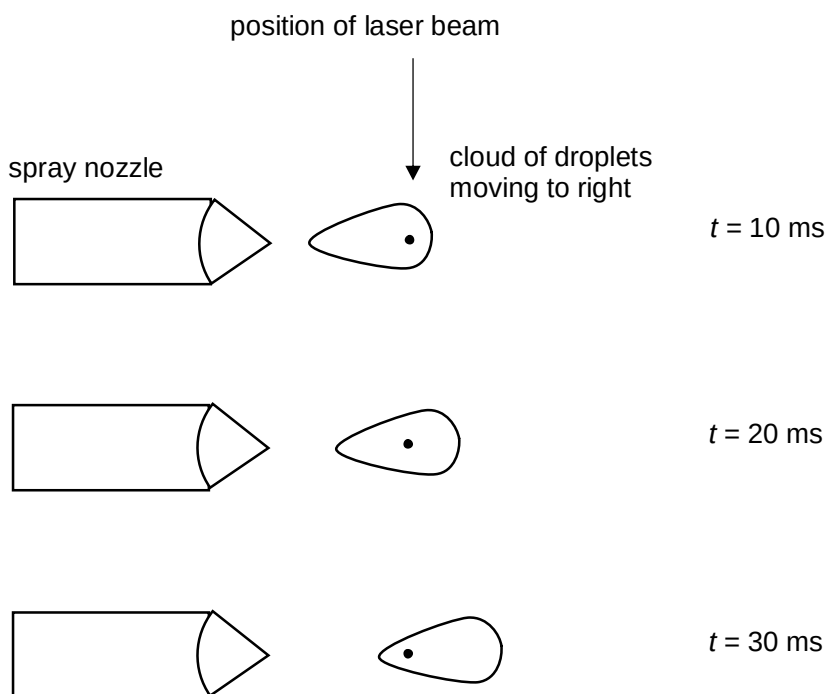
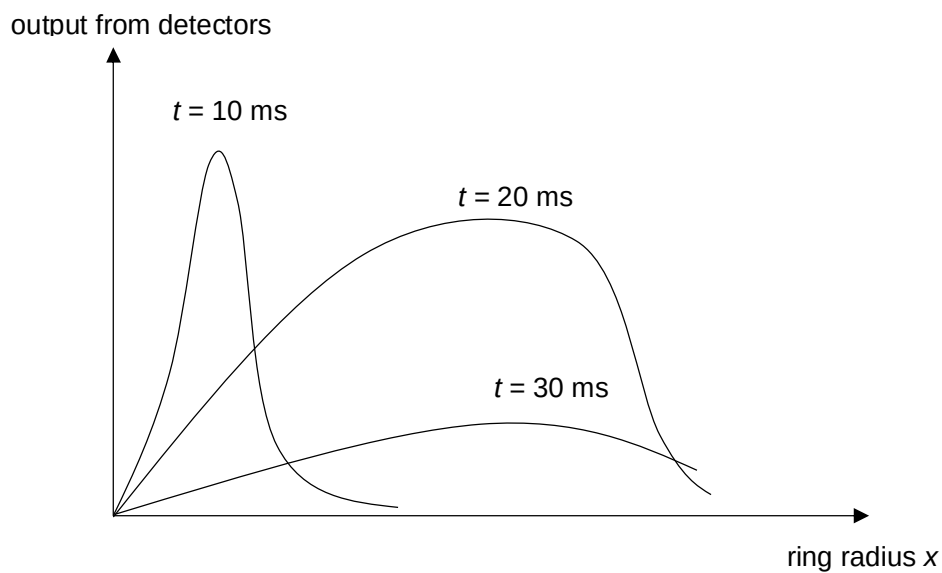

Fig. 7.4
Fig. 7.5
- (h) In practice, a cloud of spray droplets moves through the laser beam as shown at intervals in Fig. 7.4. The output from the detectors varies with time in the way shown in Fig. 7.5.